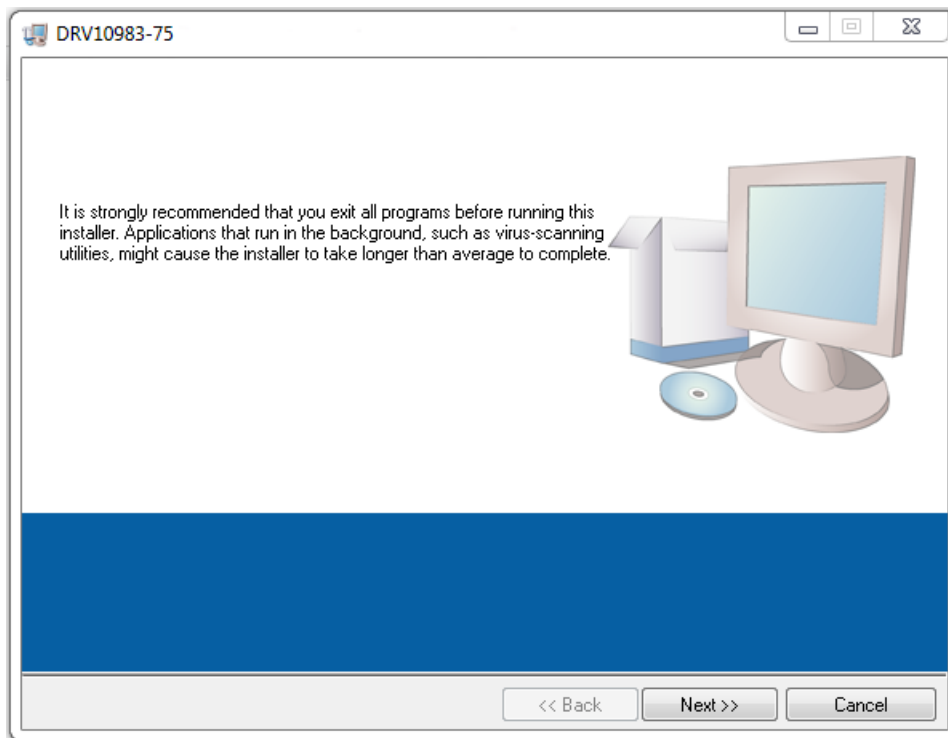

Figure 11. GUI Installation Initialization
2. A screen shown in Figure 11 appears. Press the *Next >>* button.